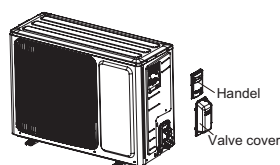

Fig.21
- (1) Remove the screw on the right handle and valve cover of outdoor unit and then remove the handle and valve cover.
- (As show in Fig.21)